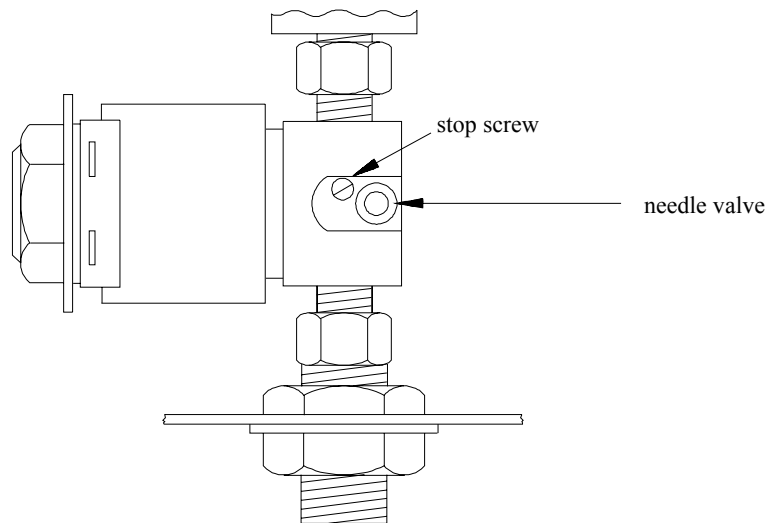

Figure 8-1. Stop Screw
4. Turn the needle valve on the inlet-and-exhaust valve (Figure 8-1) 4-5 turns counterclockwise.